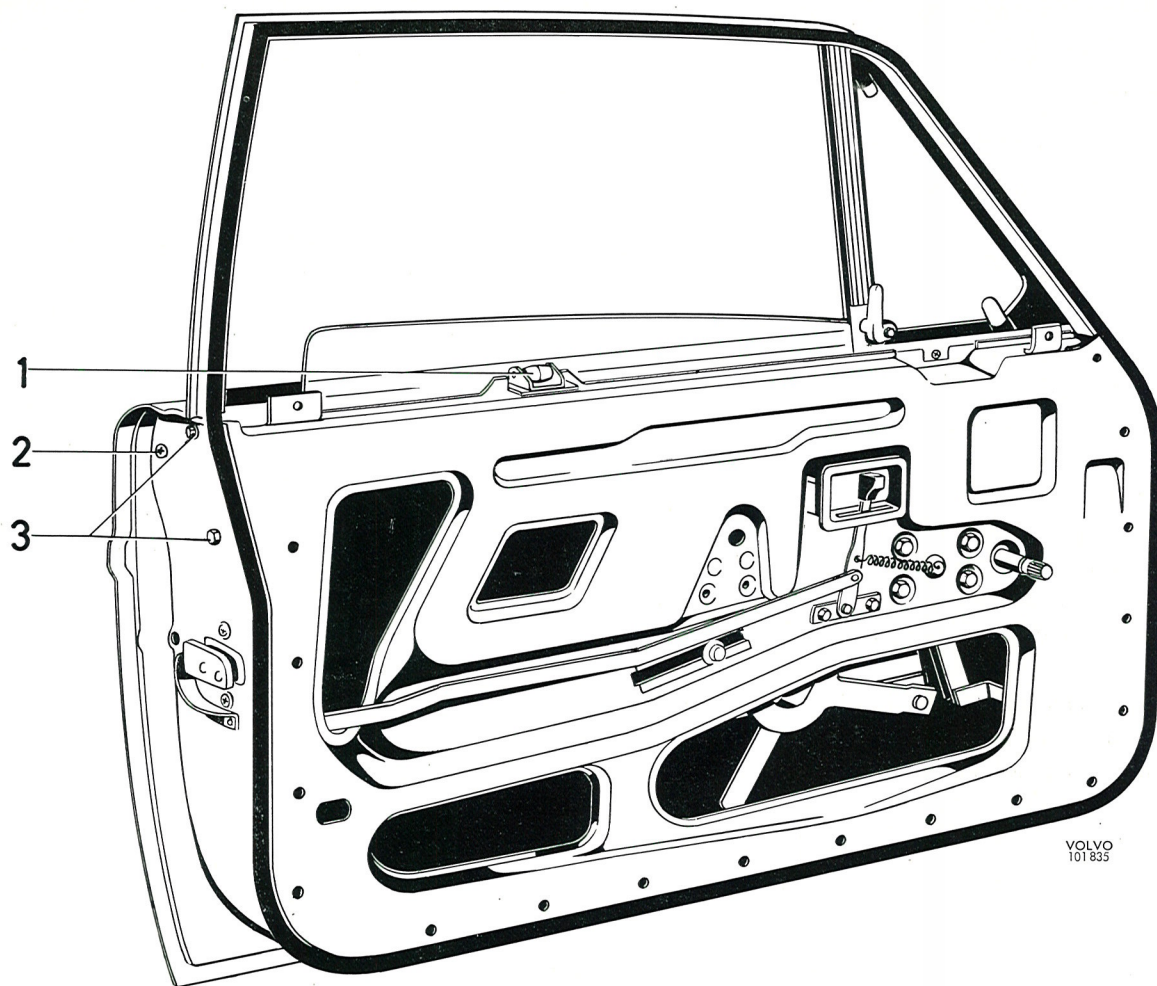

Fig. 8-7. Front door
Remove the door stop in accordance with the instructions under "Removing and fittings door stops". Unscrew the bolts between the hinges and door. The bolts are accessible when the door is opened. The door can then be taken off (Fig. 8-7).
2. Remove the guide roller for the window. The guide roller is placed at the upper edge of the door as shown in Fig. 8-7.